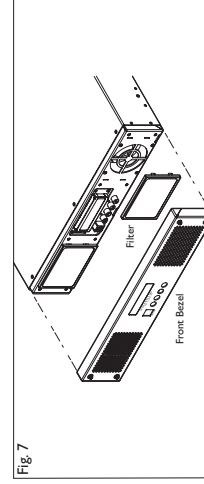

Fig. 7
To prevent overheating, inspect the air intake filter regularly and clean as needed. The air intake filters are located behind the front bezel of sPDS-480ca 7.5V. (See Fig. 7.)
- Replace the filter in the filter cover, and then replace the front bezel. Never operate sPDS-480ca 7.5V with the front bezel off. (See Fig. 7.)